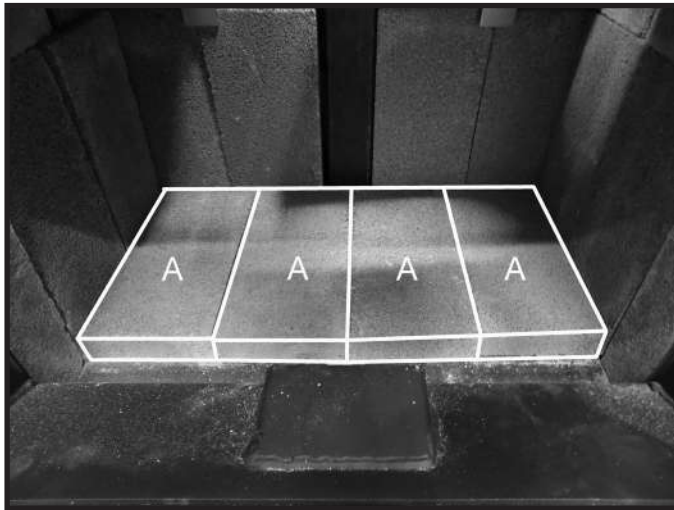

Figure 18: Four floor bricks in place.
6. Place four "A" firebricks on the firebox floor as shown in Figure 18.